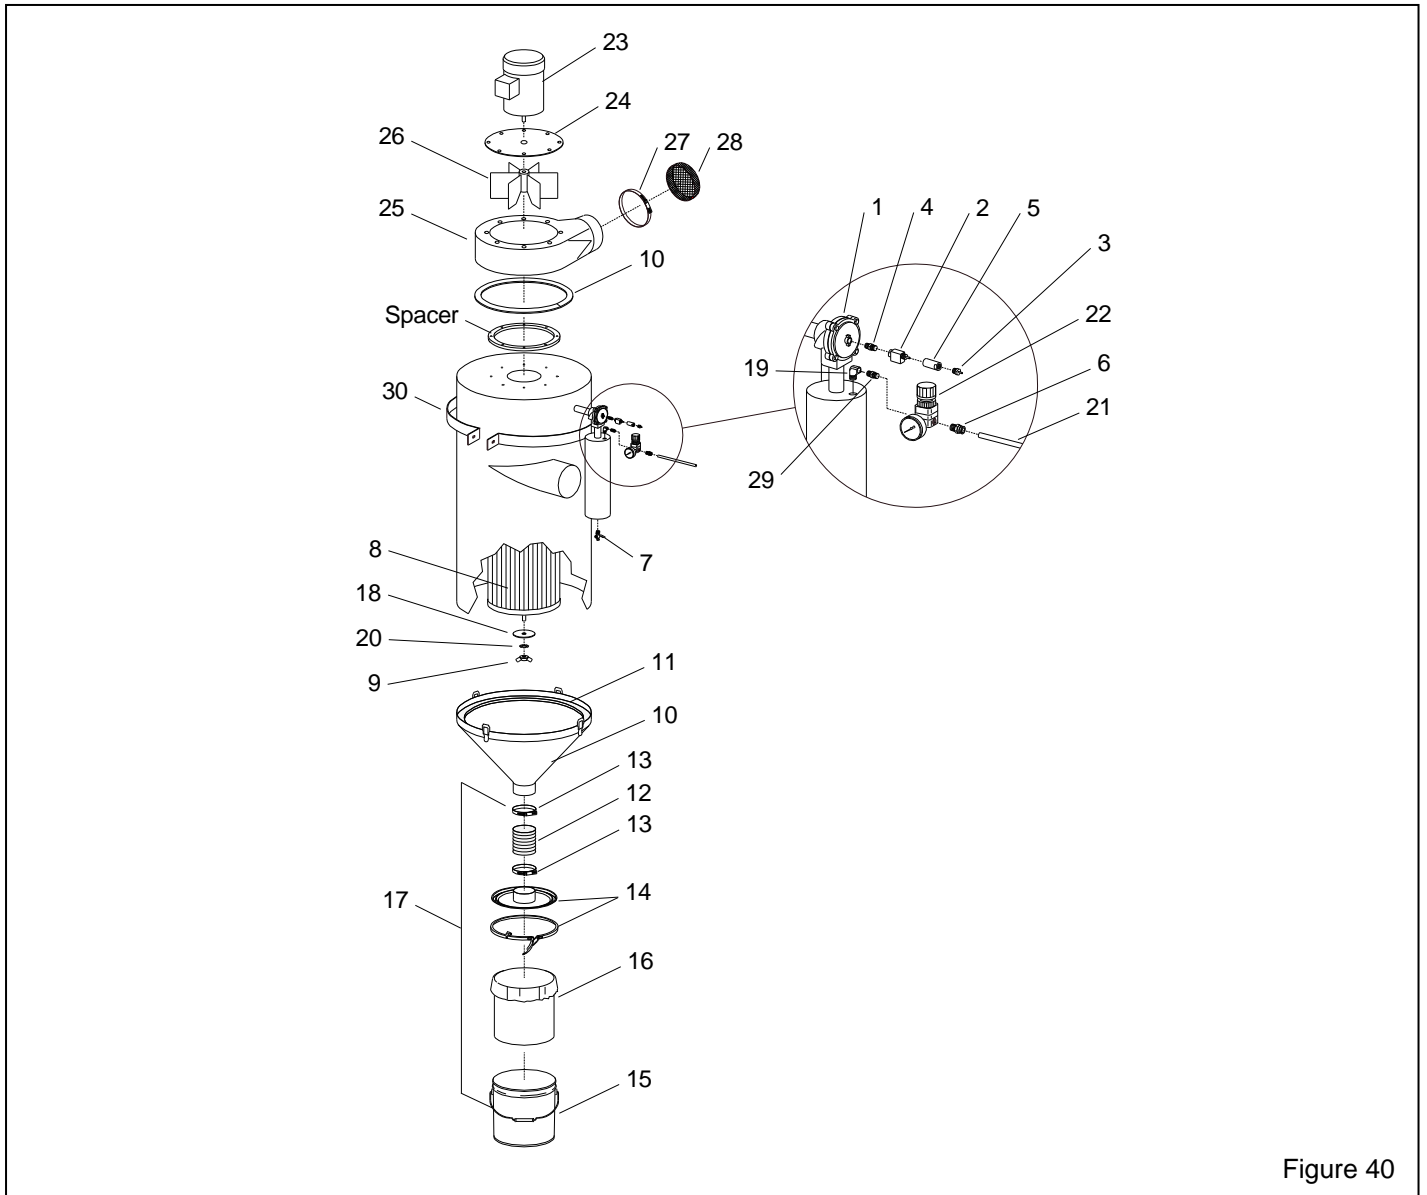

Figure 40
10.10 Dust Collector – Figure 40